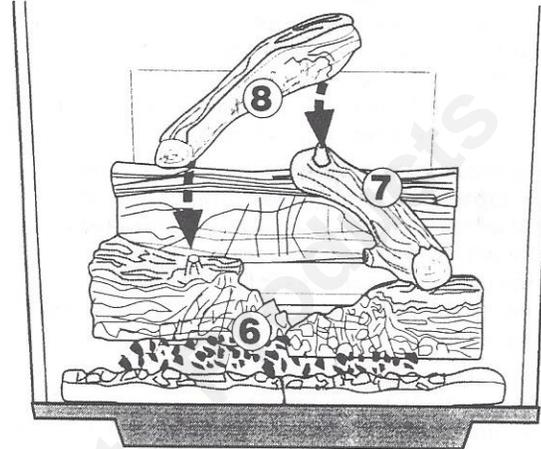

Figure 23. Install the two top logs; engage pegs on the middle logs with pockets on the bottoms of the top logs.
5. Loosely sprinkle some of the lava rocks directly on top of the burner between the Ember Logs and the Middle Logs. Do not place any lava rocks behind the middle logs. See 6, Fig. 23.
6. Engage the right Upper Log (7) with the Rear Log and the left Middle Log as shown in Fig. 23. Lastly, engage the Top Log (8) with the right Upper Log and left Middle Log as shown in Fig. 23.